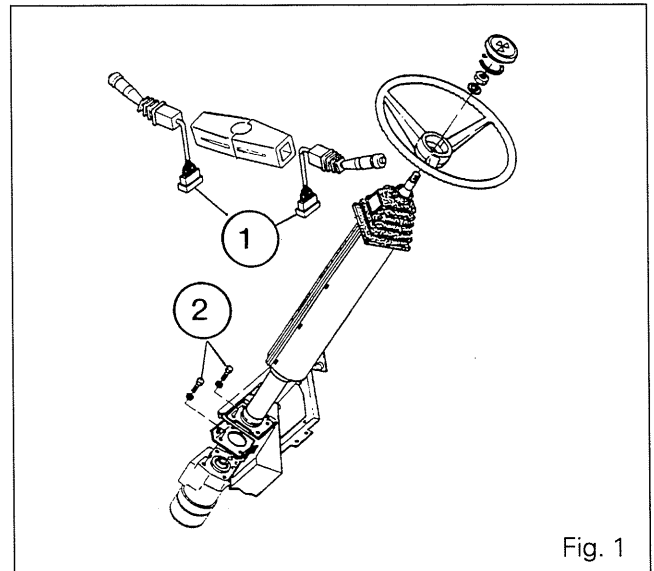

Fig. 1
3. Disconnect the Dynashift control switch **(1)** located under the dashboard (Fig. 1).
4. Take out the bolts **(2)** attaching the base of the column onto the cab support (Fig. 1).